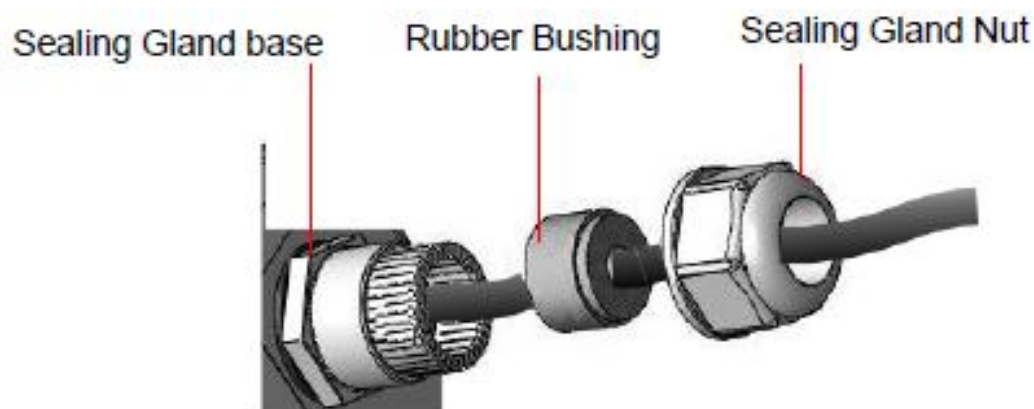

Figure 3 : Cable Insertion
- 2** Connect the cable (see Figure 3):